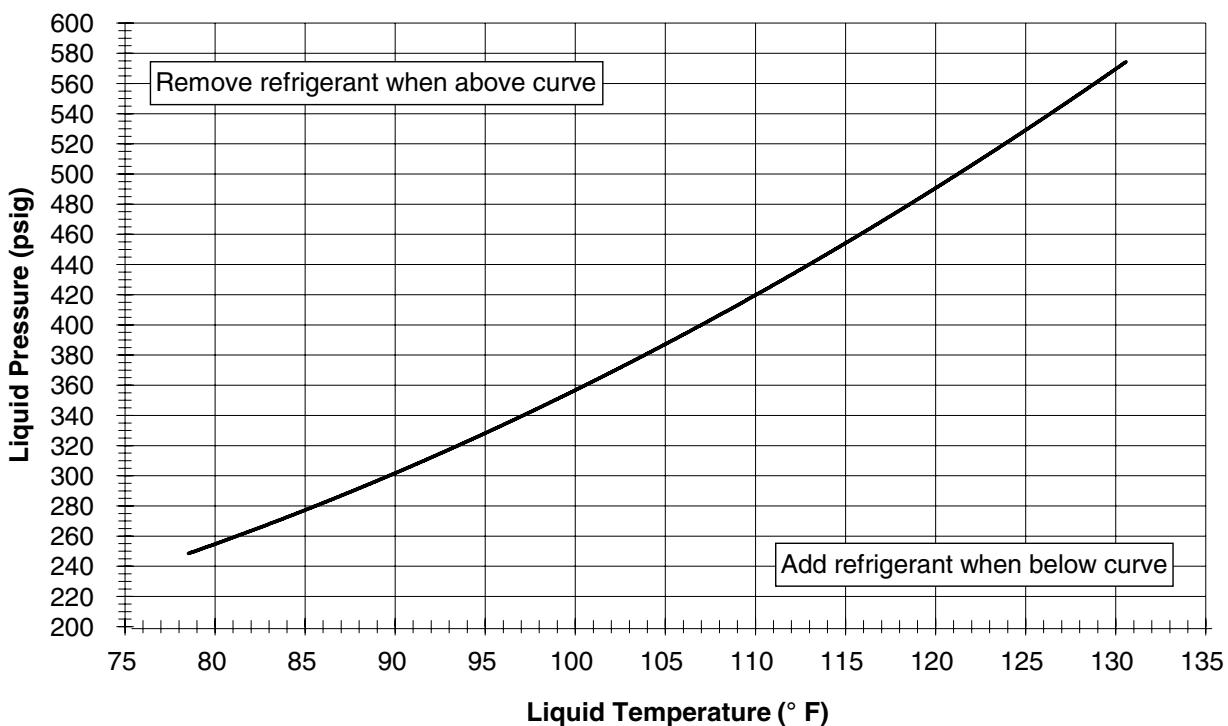
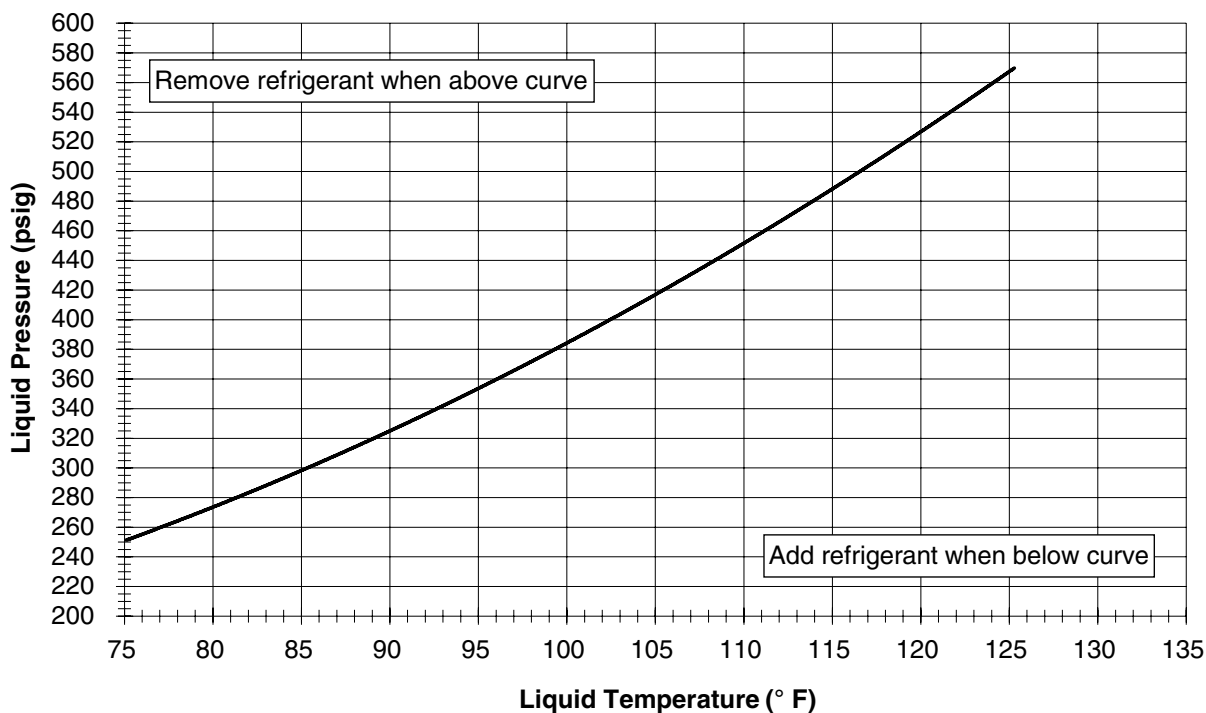
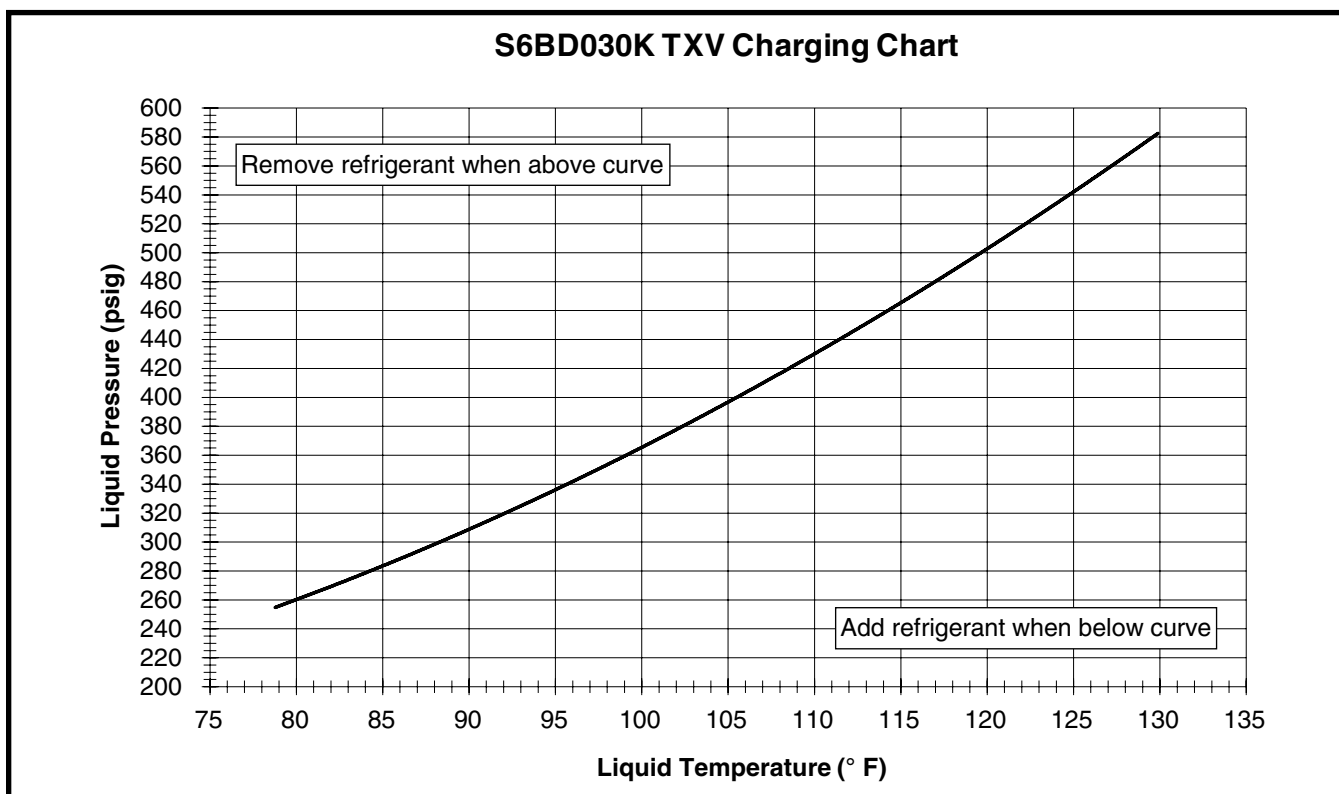

Figure 2. Charging Chart for 1.5 Ton Units - TXV Matches
Figure 3. Charging Chart for 2 Ton Units - TXV Matches
Figure 4. Charging Chart for 2.5 Ton Units - TXV Matches
3. Determine the required liquid refrigerant pressure from the appropriate charging chart. See Figure 2 \(page 9\), Figure 3 \(page 9\), Figure 4 \(page 10\), & Figure 5 \(page 10\).
- Charging charts are valid for a variety of indoor, return air conditions and are most influenced by the outdoor ambient temperature, outdoor fan operation and the unit operating voltage. Before using these charts, make sure the unit is in a stable operating mode. As shown in Figure 2 \(page 9\), Figure 3 \(page 9\), Figure 4 \(page 10\), & Figure 5 \(page 10\), the ideal system sub-cooling can vary over the range of operation. Reference the charts to determine the ideal amount of sub-cooling for a given liquid pressure. Units charged to other values will not perform at the rated unit efficiency (EER) or rated Coefficient of Performance (COP) in heating mode.